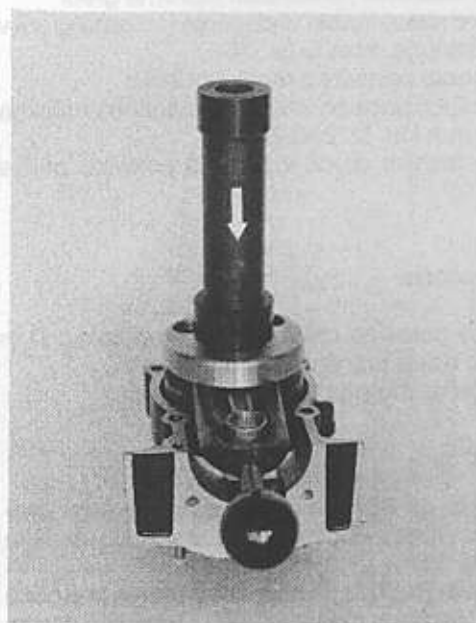

Fig. 37
4. Insert the tool, Part No. 735.753, between the two crankshaft halves (Fig. 37) to avoid a deformation while pressing the bearing into the lower crankcase half.
4. Con l'ausilio dell'attrezzo Part. No. 735753 pressare l'albero motore (Fig. 37) nel semicarter